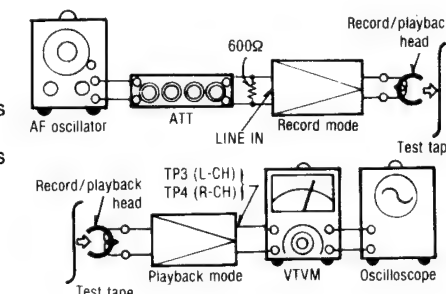

Fig. 17
1. Test equipment connection is shown in fig. 17.
8. Repeat from step (2).